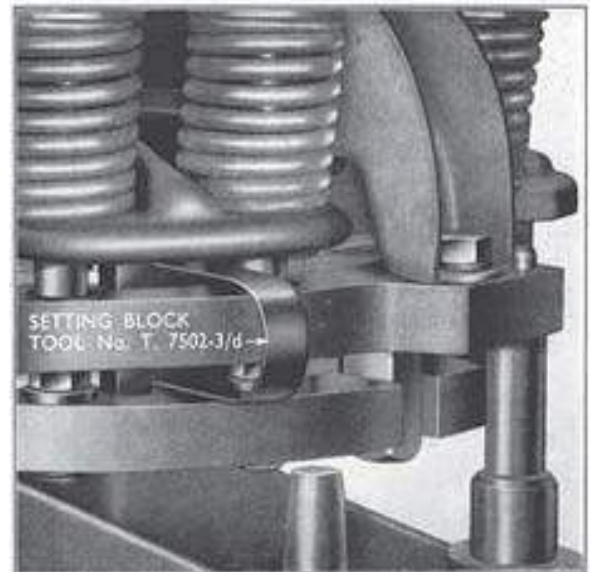
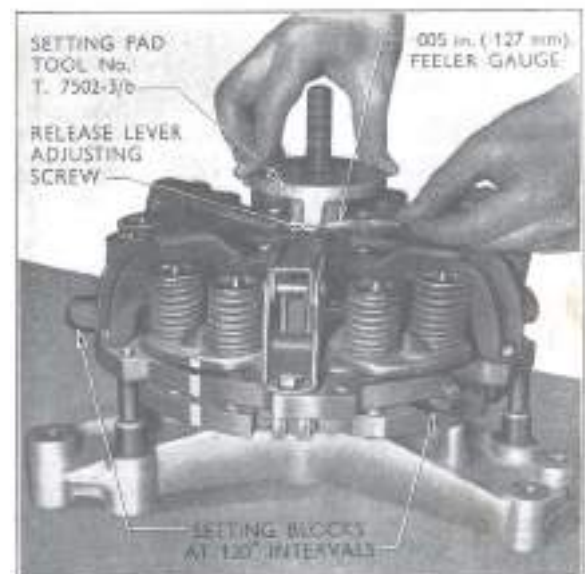

Fig. 12
Fig. 13
2. When the pressure plates have moved sufficiently, insert the three setting blocks (Tool No. T.7502-3.d) between the operating faces of the pressure plates and the centre drive plate until they touch the periphery of the clutch discs (see Fig. 12); the setting blocks should be positioned at 120° intervals around the clutch so that each is directly below one of the small webs which, last is the top face of the P.T.O. pressure plate, separate adjacent clutch pressure springs (see Fig. 13).
4. Ensure the P.T.O. clutch disc centralising collar is contacting the shoulder of the fixture centre spindle and replace the setting pad on the fixture so that the small diameter face abuts the centralising collar. Two lugs are provided on the setting pad for checking the setting of the release lever adjusting screws, the longer lug for the transmission release levers and the smaller one for the P.T.O. release levers. Set each of the six release lever adjusting screws separately, turning each screw so that when the setting pad is held down firmly on the centralising collar with the appropriate lug directly above the screw being adjusted, a .005 in. (.127 mm.) feeler gauge can just be inserted between the top of the screw and the machined surface on the underside of the lug (see Fig. 13).